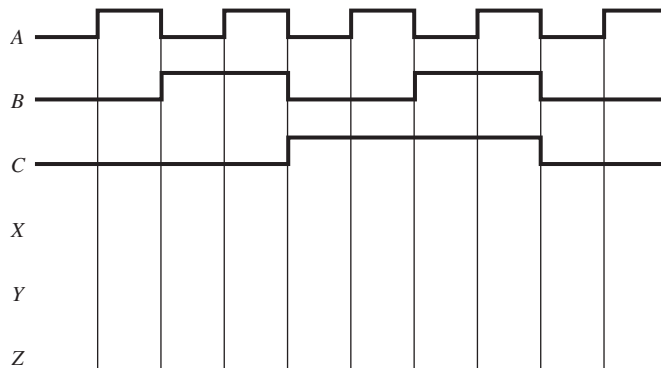

Figure P28
28. Complete the timing diagram in Figure P28 for the following simplified Boolean equations.